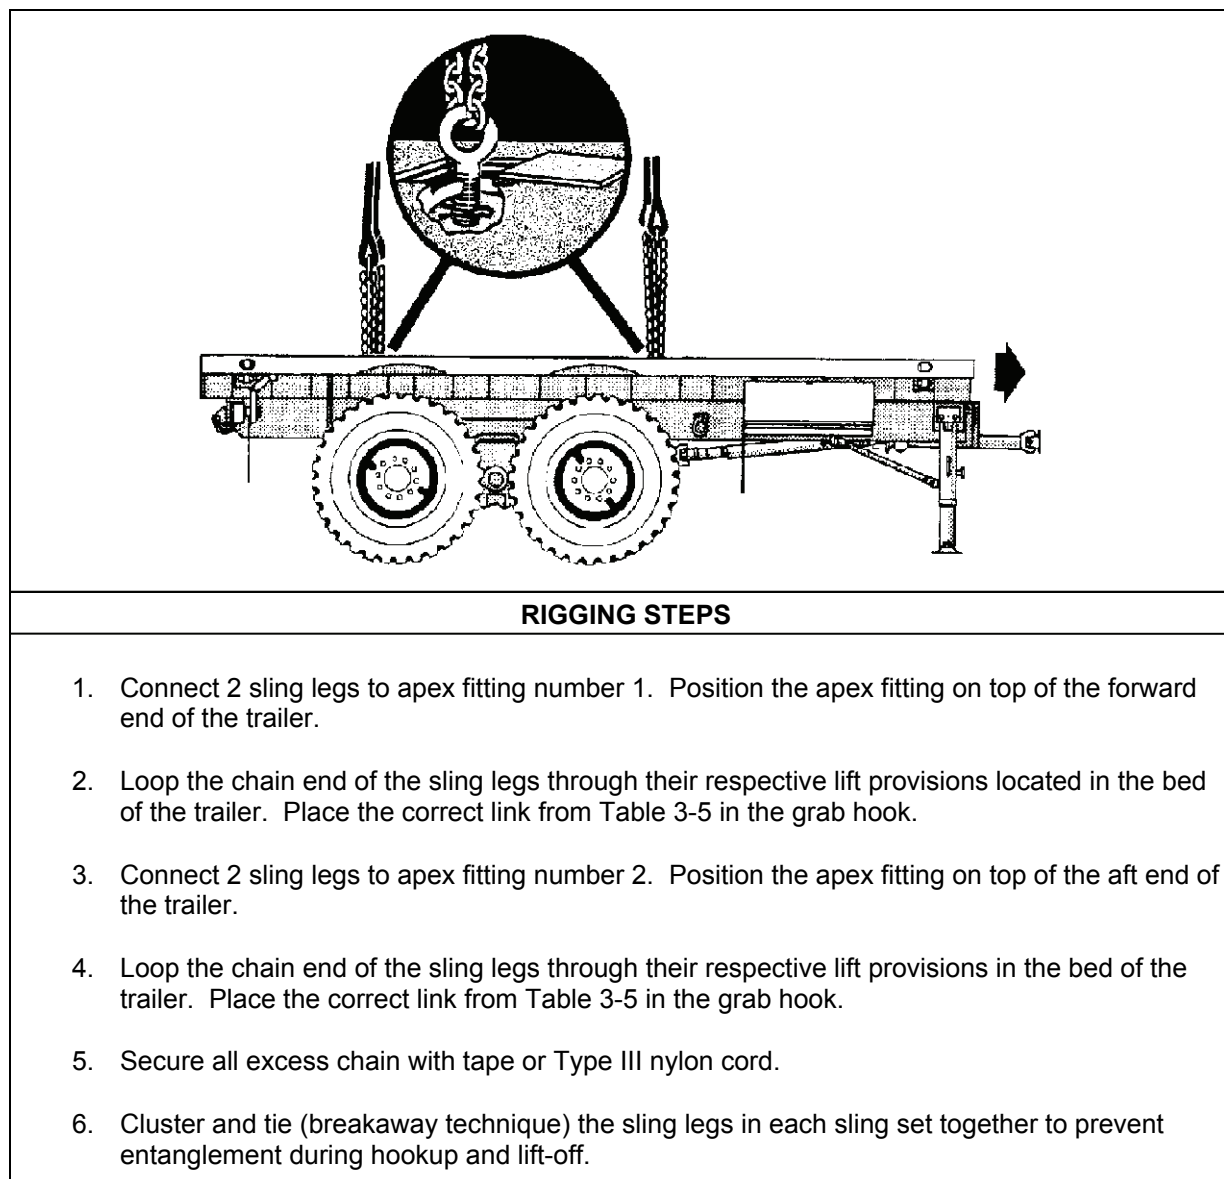

Figure 3-5. Mk14 Trailer, Container Hauler
- **Rigging.** Rig the load according to the steps in Figure 3-5.